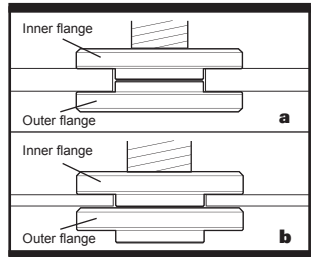
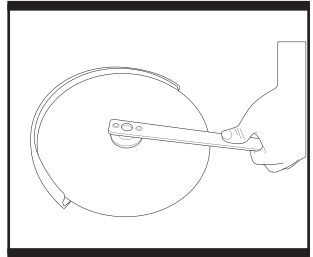
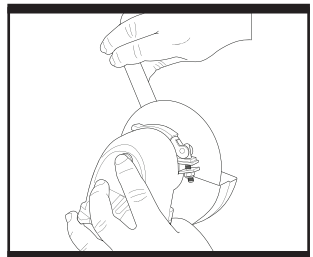

Fig. 6
Fig. 7
Fig. 8
5. DISC FITTING (Fig. 6 & Fig. 7 & Fig. 8)
Press the spindle lock button (1) and rotate the spindle until it locks, then firmly tighten the outer flange using the provided spanner to clamp the disc. The pins on the spanner locate in the holes on the outer flange (Fig. 7). Check the disc rotates freely and is securely clamped. Make no load test run for 20 seconds to check disc vibration and disc run out. To remove a disc, reverse these instructions.